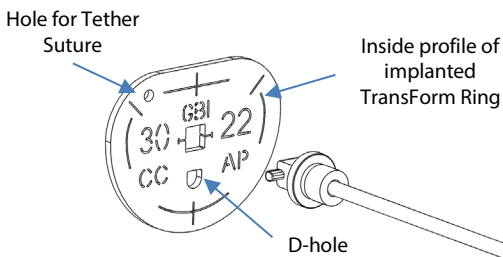

Figure 2: Flexible TFRS Sizer and GRH Handle
The TransForm silicone sizer's outer edge and parallel slots match the outer and inner profiles of the implanted TransForm Annuloplasty Ring. The radial slots represent the trigone, mid-anterior, and mid-posterior markers. Sizing for commissure-commissure (CC) and anteroposterior (AP) are designated on each sizer. Blue arrows indicate significant features in Figure 2.